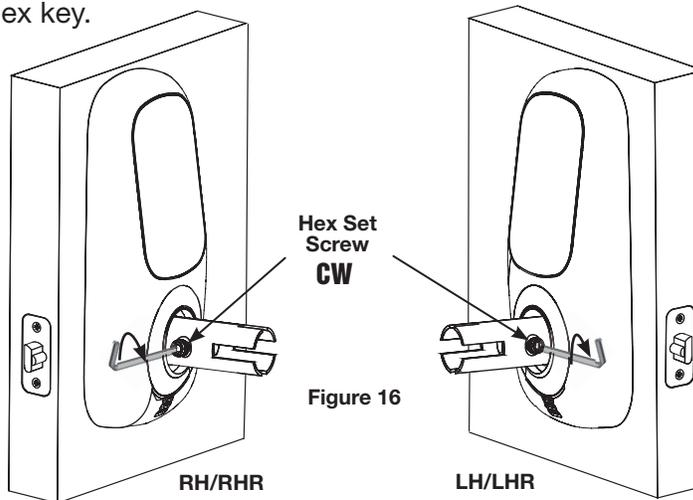

Figure 16
A. Place set screw in hole on side of shank toward latch (Fig. 16); turn set screw Clockwise to allow for placement of lever handle over shank.
NOTE: For correct lever handing, the hex set screw for the exterior lever shank must be installed as shown (Fig. 16).